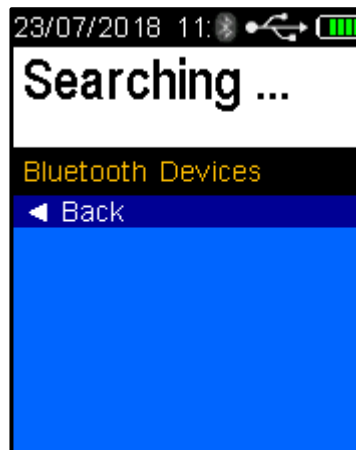

Figure 86 - Searching Displayed
- Place the HH4 device next to the Bluetooth printer and switch the printer on. Press the test key and the HH4 will search for the printer and display *Searching...* (Refer to Figure 86).